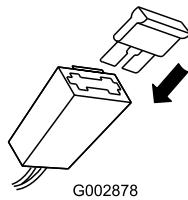

Figure 24
2. Insert the fuse into the fuse holder (Figure 24).